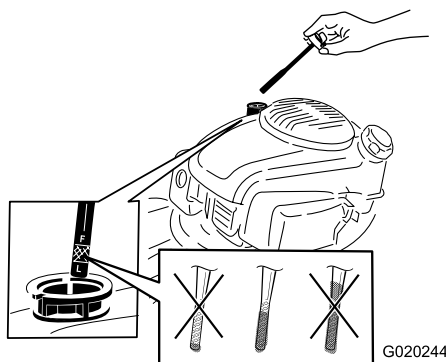

Figure 25
3. Remove the dipstick (Figure 25).
10. Read the oil level on the dipstick (Figure 25).